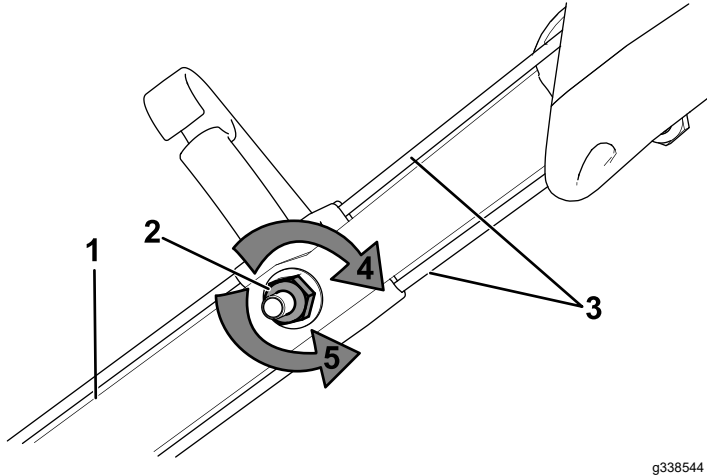

Figure 25
1. Turn the adjustment nut counterclockwise to loosen the cable adjustments (Figure 25).
2. Adjust the tension on the cables (Figure 25) by pulling them back or pushing them forward and holding that position.